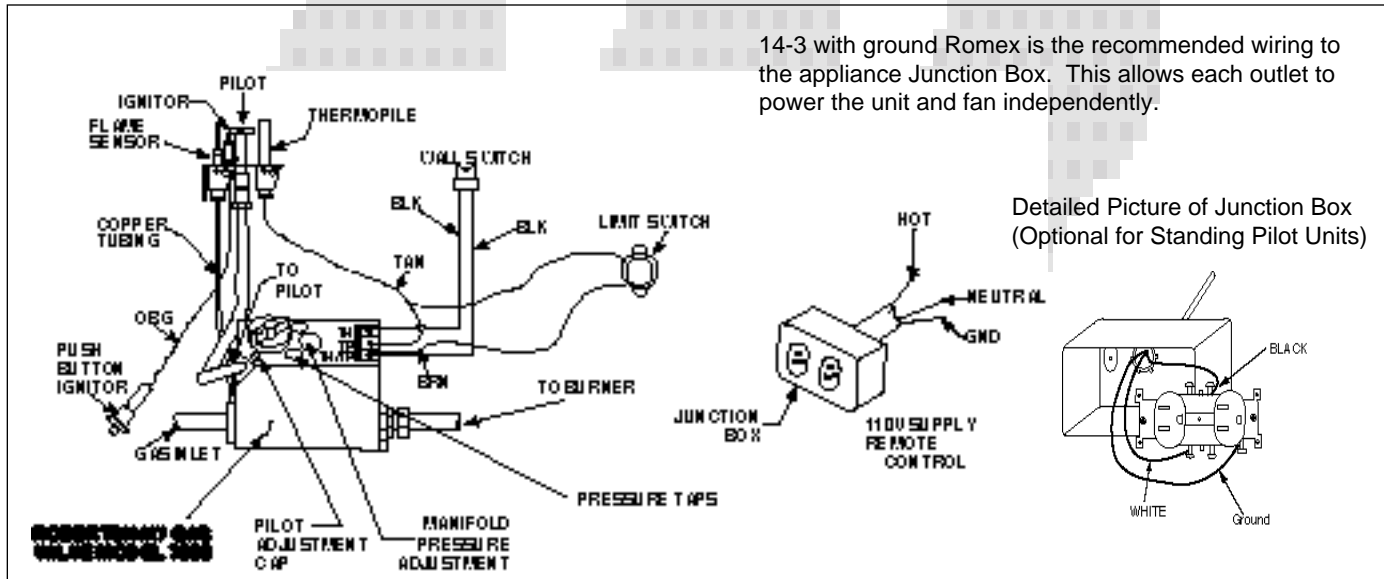

Figure 12 - Standing Pilot, Millivolt Valve Wiring Diagram
1. **Appliance requirements.** A wiring diagram is shown in Figure 12.